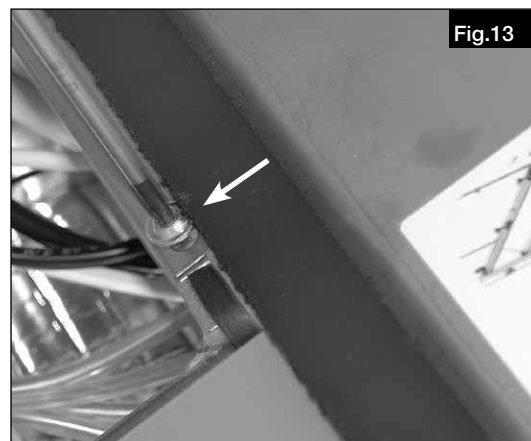

Fig.13
2. Loosen fixing screws on condensation tray (Fig.13)